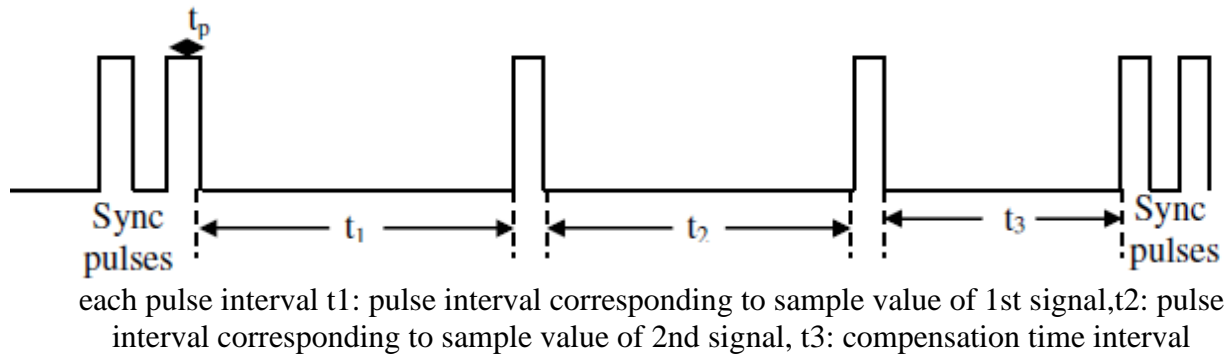

Fig. 8.9: A PPM signal with two ECG signals
- At the receiving end, it is demodulated. This is followed by determination of Heart beat Rate (HR). PPM Signal either encodes single or multiple signals. The principle of modulation being that the position of pulse decides the sample value.
- The PPM signal with two ECG signals encoded is shown in fig. 8.9. The transmission requires a sync signal which has 2 pulses of equal interval to mark beginning of a cycle.